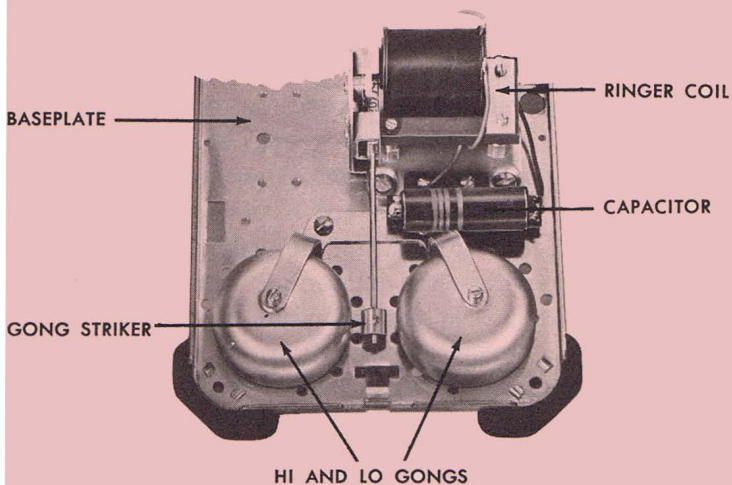

Figure 4. Ringer Assembly.
(2) *Ringer assembly* (fig. 4). The 1543 or any of the 1500 Series Telephone uses a single coil, high-impedance ringer which is advantageous on heavily loaded or noisy lines. The ringing capacitor is mounted on the ringer base, providing easy replacement of the capacitor and ringer as a unit. Ringers are available in four groups—Straight line, Harmonic, Synchromonic, Decimonic. Provision is made for including standard Western Electric ringing tubes that are used in superimposed ringing systems. Two large-size gongs are used for full volume signalling. A three-position (high, medium, and low) switch, mounted to the baseplate and protruding through the base of the telephone, is available with straight line ringers to control the volume without distortion or chatter.